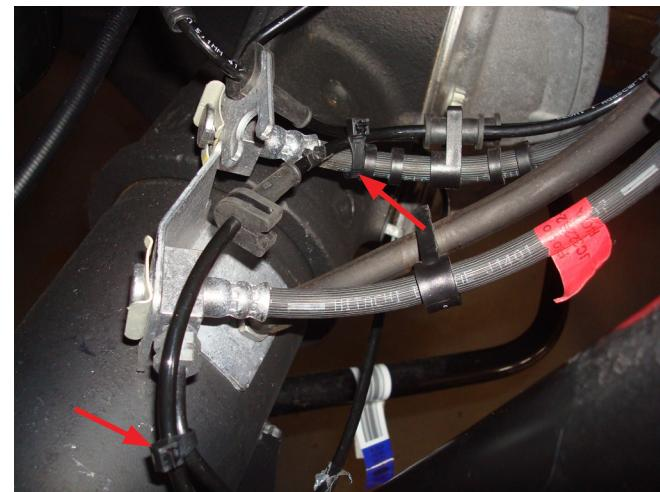

Fig. 21
4. Tie off the ABS line to the brake lines as shown in Fig. 21.